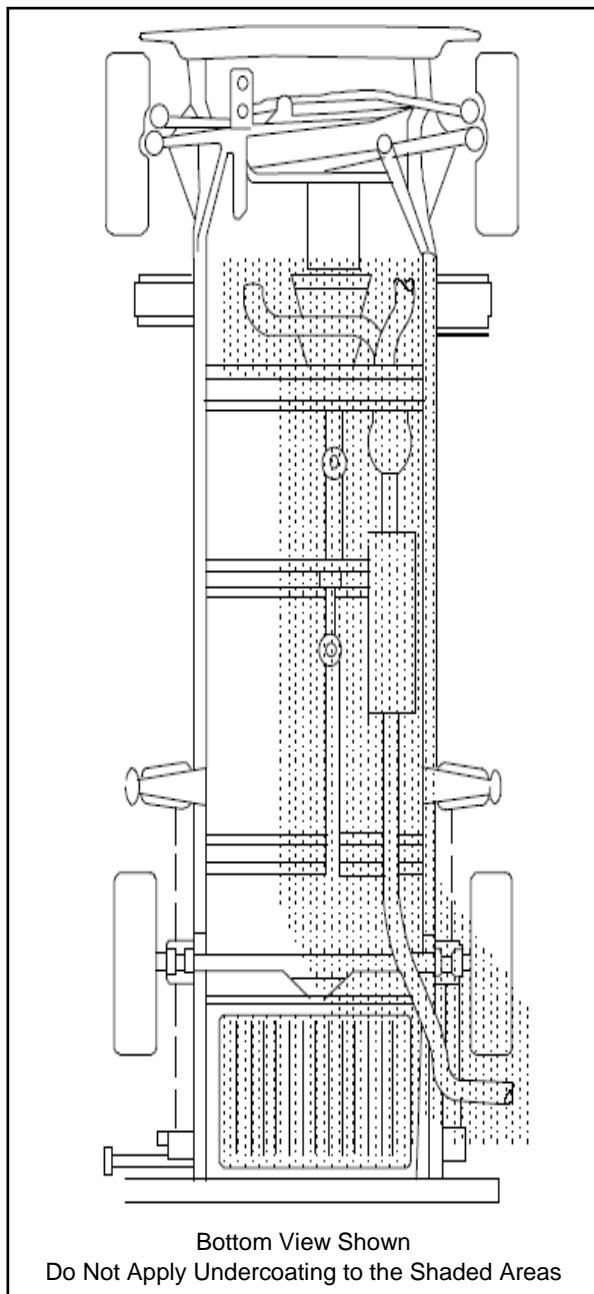

Figure 17 – Undercoating “Keep Out” Areas
- Do not apply body undercoating within twelve inches of the area directly above the exhaust, on any components within twelve inches of the exhaust, or to any part of any exhaust system. See Figure 17. Undercoating will smoke or burn if subjected to high heat.